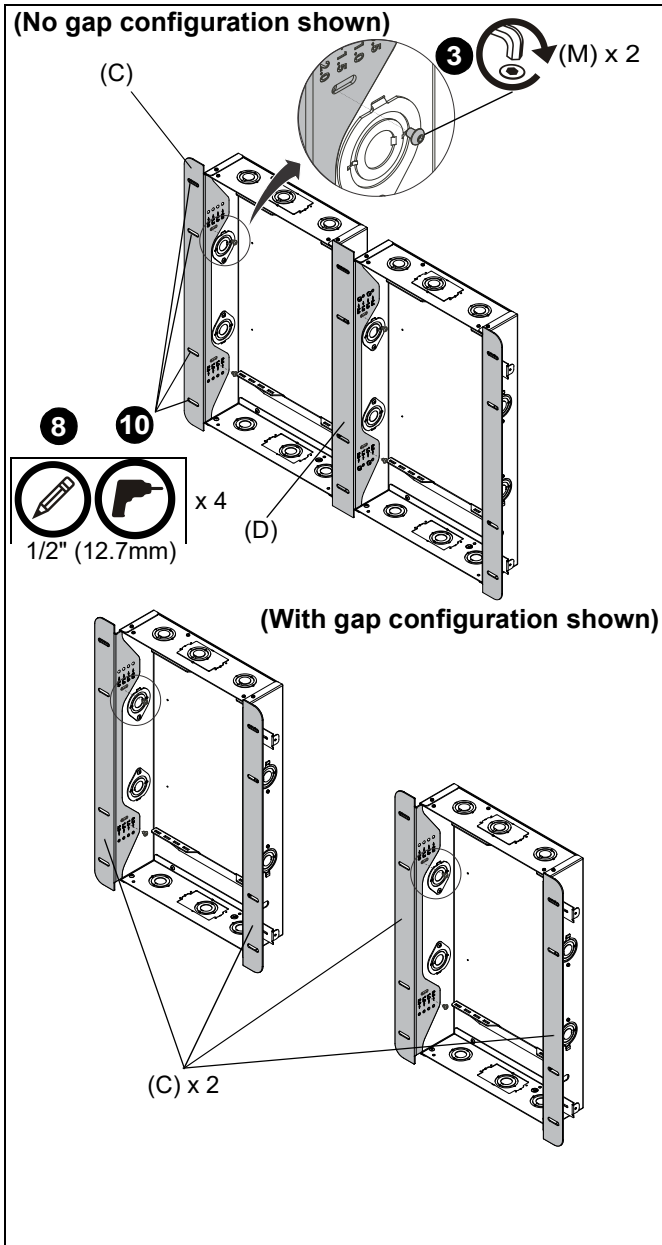

Figure 10
3. Use two #10-24 x 1/4" button head cap screws (M) to secure each side flange (C) and saddle flange (D) to boxes from FPIWMKIT1. (See Figure 10)
8. Mark pilot holes on studs at each slot in each flange. (See Figure 10)
10. Drill a 1/2" (12.7mm) hole at each marked location. (See Figure 10)